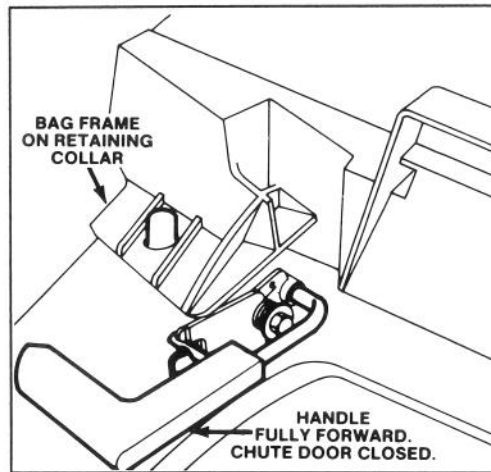

Figure 5
4. **MULCHING**— In summer when grass grows slower and is drier, mulch by removing the grass bag and closing the discharge door (Fig. 5).
5. EMPTYING BAG — Release control bar and wait for blade to stop. For protection, always keep hands and feet away from mower housing when engine is running. Move chute door handle forward to engage the locking pin with catch (Fig. 5). Grasp handle at front and rear of bag and lift bag off mower. Gradually tip bag forward to empty clippings.